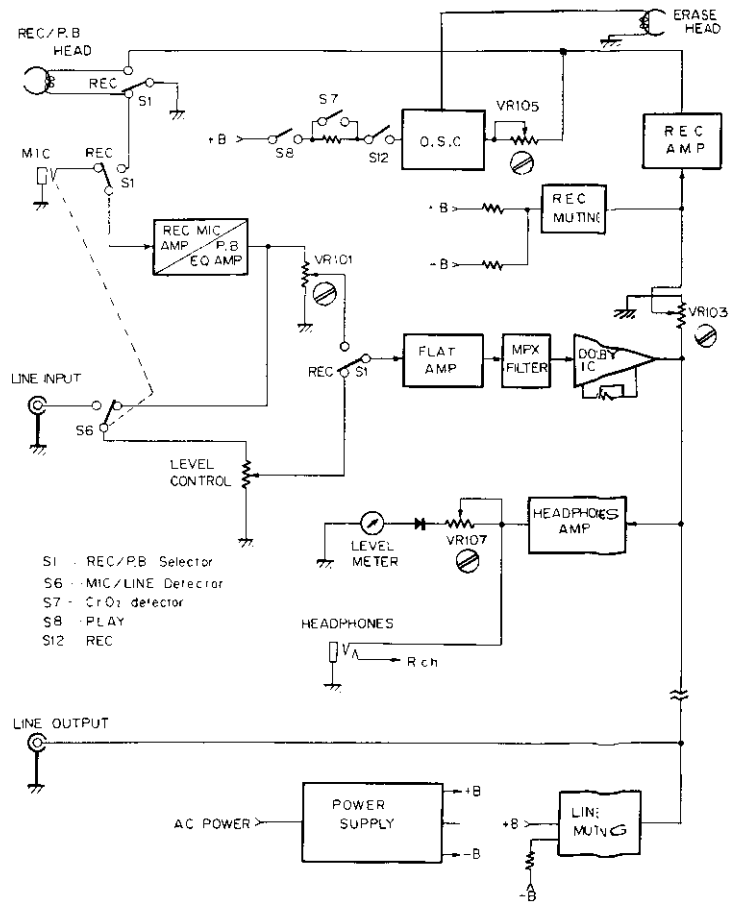

Fig. 23 Adjustment positions
7. The adjustments must be performed in the order shown in the Adjustment Procedure. If the order is changed, proper adjustments will not be possible, and the tape deck will fail to operate with optimum performance. The positions to be adjusted are shown in Figs. 23, 24, and 25.